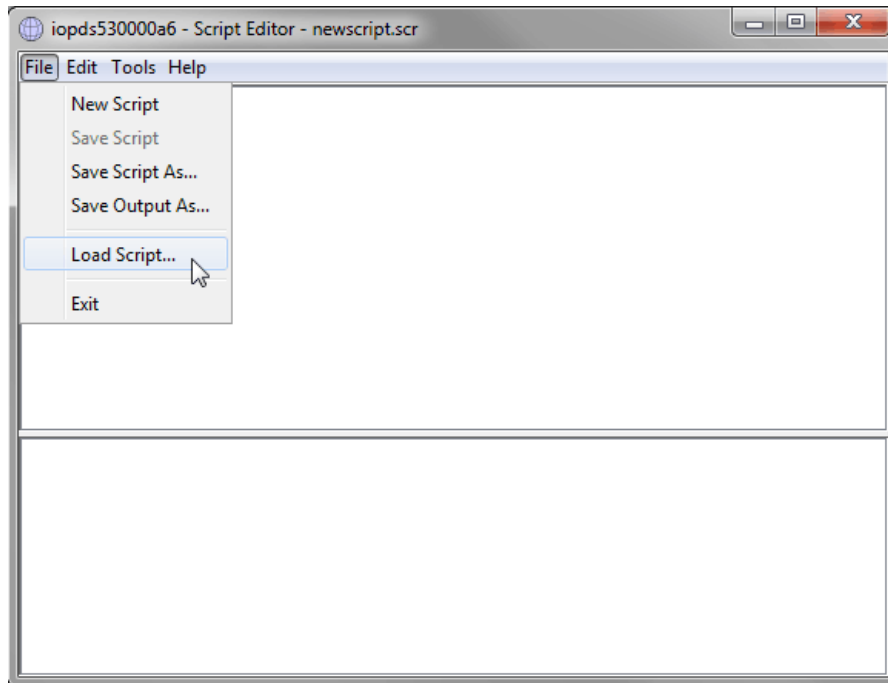

Figure 2-77 Selection of Load Script
3. You will see a new window appear called Script Editor. To load the script, you need to click **File** → **Load Script**, as shown in Figure 2-77.